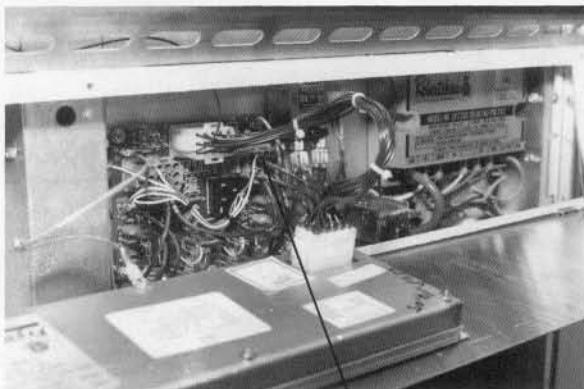

Figure 7
- Remove 12-pin plug containing probe wires from interface board (Fig. 7).
- Using pin pusher, remove probe pins from plug (Fig. 7).